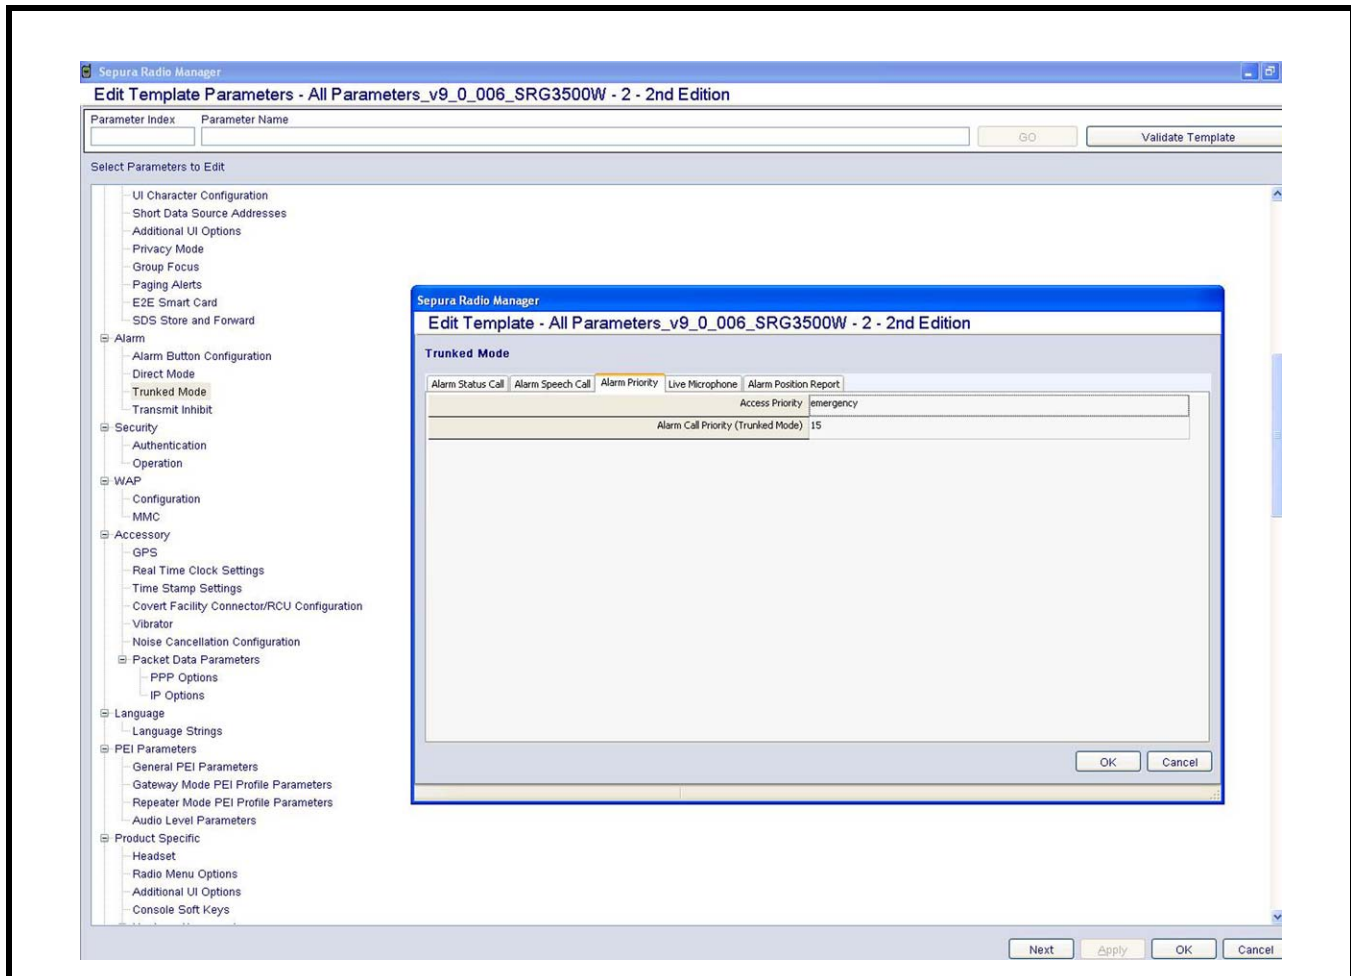

FIGURE 9. Example Trunked Mode Alarm Priority Setup
**NOTE:** See example shown in Figure 9.